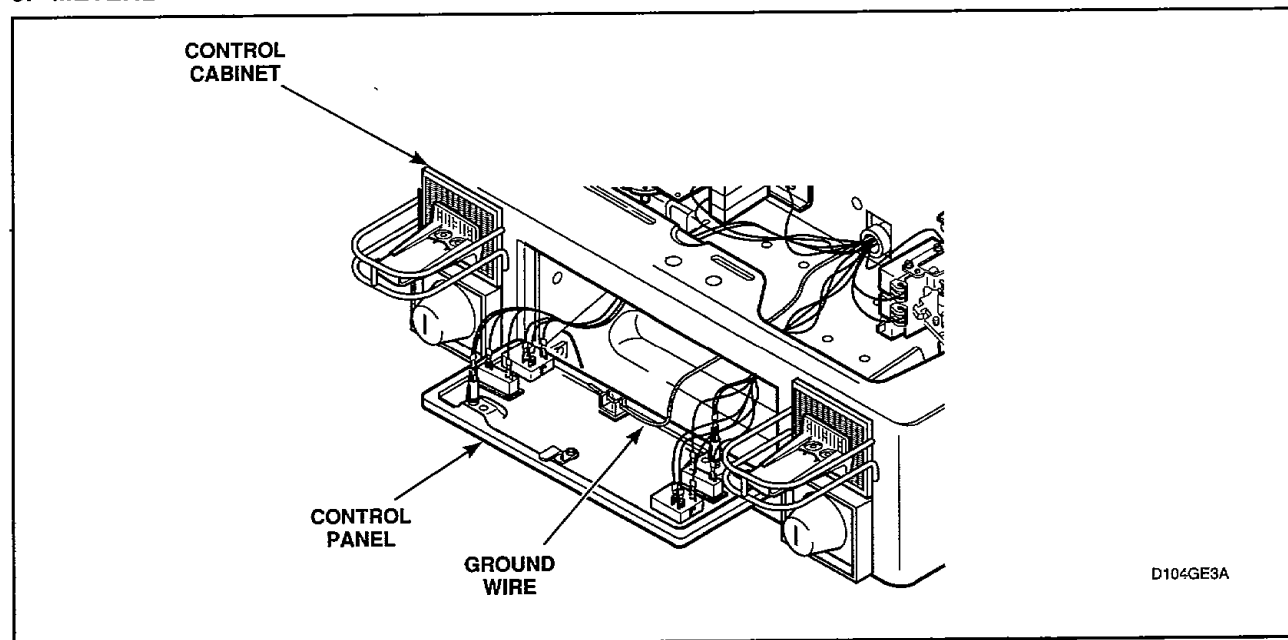

Figure 5
- Disconnect all wires from the control panel components; then remove ground clip and screw holding ground wire to control cabinet and control panel, *Figure 5*.